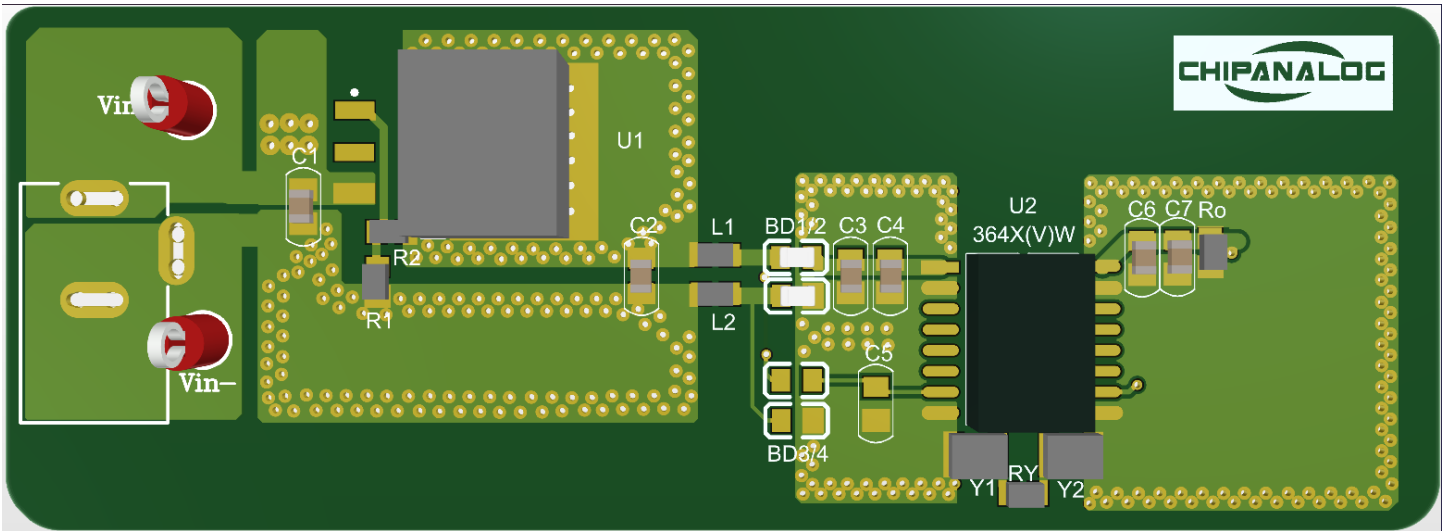

Figure 3-1. CA-IS364x reference design board(2-layer)
- 2) Place decoupling capacitors as close as possible to the device pins, maximum distance is less than 2mm, see Figure 3-1, C3/C4 and C6/C7.